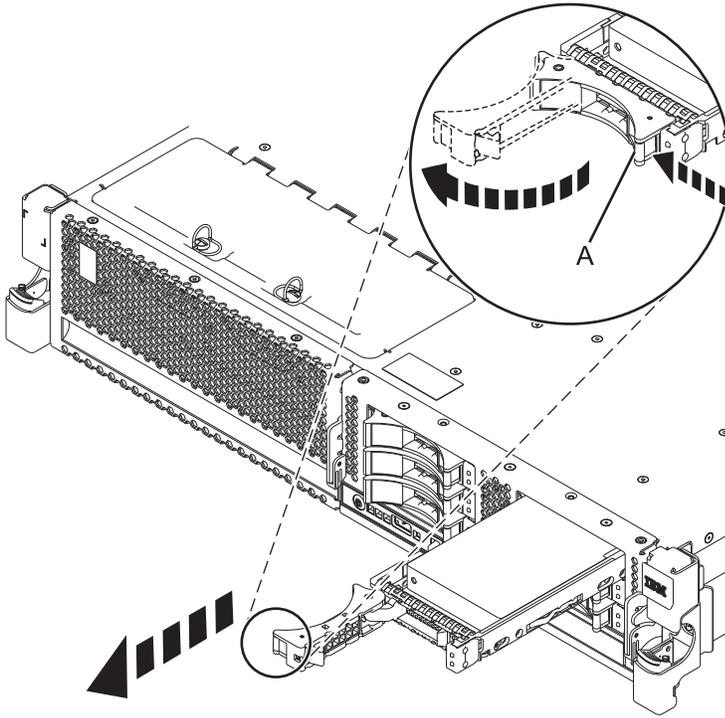

Figure 21. Removing a disk drive from the 8231-E2B, 8231-E1C, or 8231-E2C
- Unlock the disk drive handle by squeezing it and pulling it out toward you, as shown in Figure 21 on page 47.